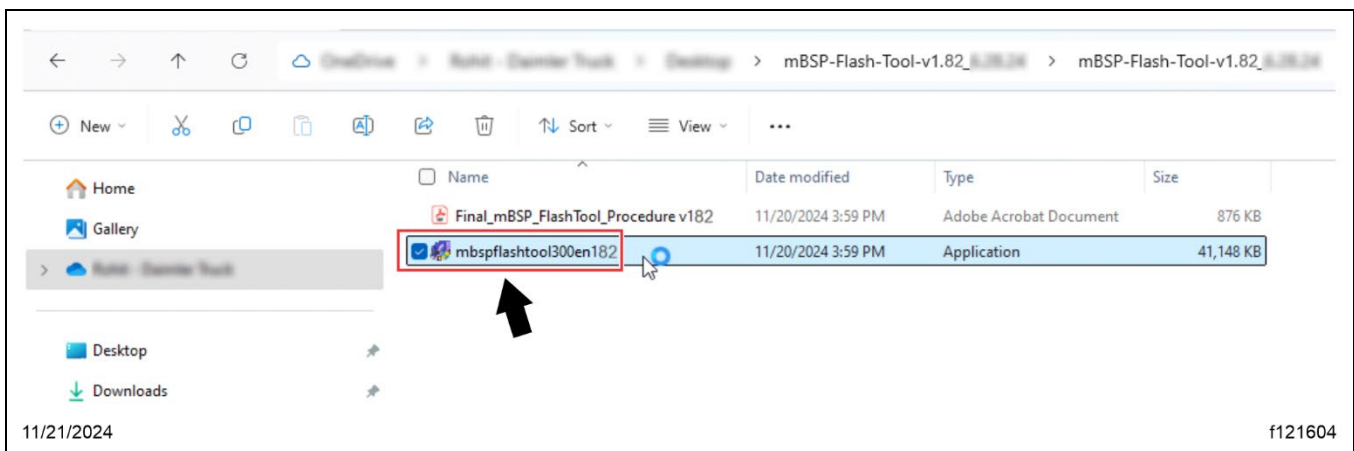

Fig. 28, Launching the Application File
7.1. Double-click to run the 'mbspflashtool300en182.exe' application file. See Fig. 28.